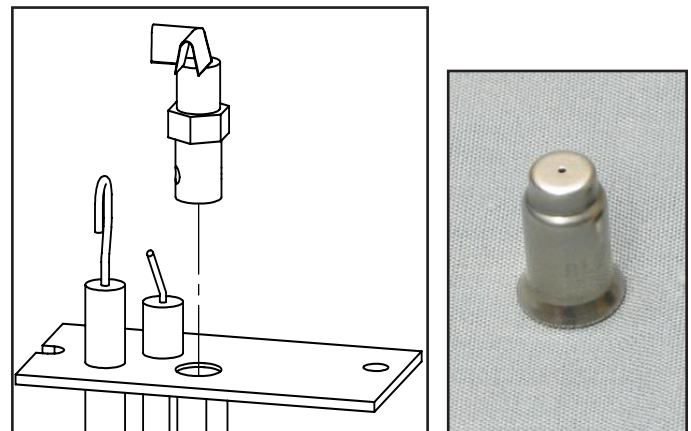

Figure 9: Pilot Conversion & Orifice
5. Convert the existing pilot orifice with the one provided in this kit (see Figure 9) using a **7/16" wrench**. Fully unscrew and remove the pilot head and replace the orifice insert, bell end down. Re-install and tighten the pilot, if the head does not reach proper orientation in the snug position then contact your Enviro dealer.